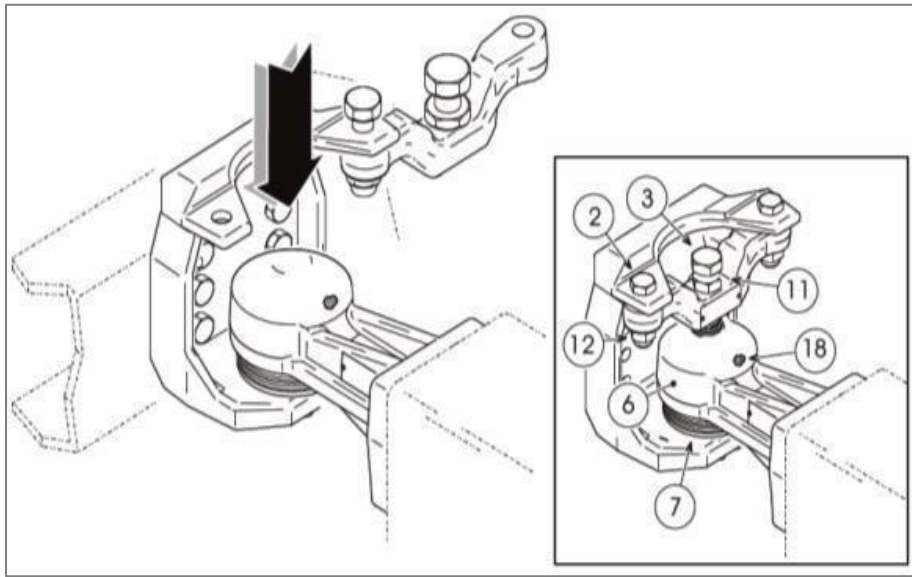

Figure 6.14
USE FIGURE 6.14 TO FOLLOW STEPS 6-7:
- Protect the part that is still visible of the **coupling ball (5 in Figure 6.14)** with the **rubber dust proof bellows protection cover (7 in Figure 6.14)**. Accurately anchor the edge directly onto the ball itself.
- Lubricate the inside of the **drawbar eye ball cup (6 in Figure 6.14)** directly through the **grease nipple (18 in Figure 6.14)**.